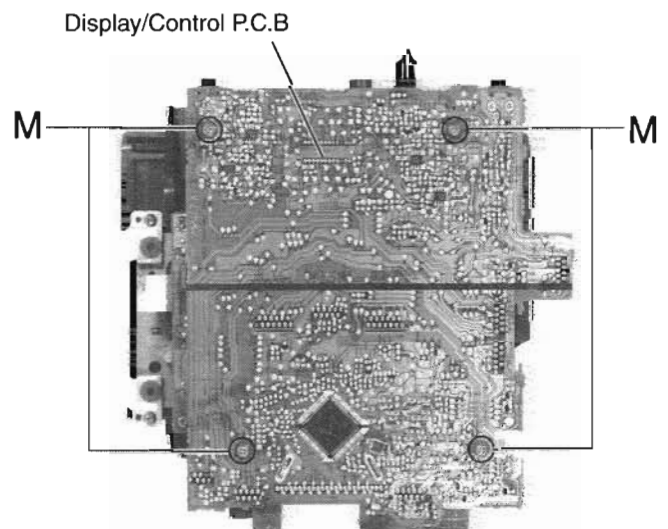

Fig.10
■ **Display/Control P.C.B removal** (See Fig.10)